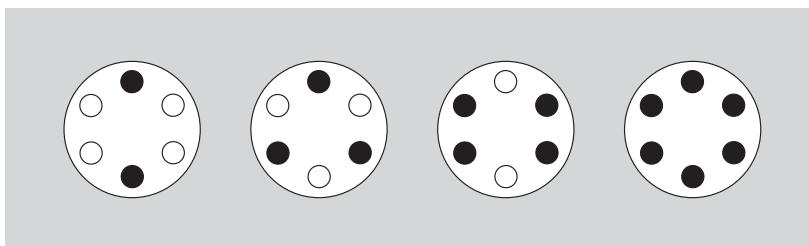

Figure 1. Arranging Tubes in the Rotor. Two, three, four, or six tubes can be centrifuged per run if they are arranged in the rotor as shown.
2. Use forceps to load the filled tubes into the rotor. If fewer than six tubes are being run, they must be arranged symmetrically in the rotor (see Figure 1). Opposing tubes must be filled to the same level with liquid of the same density.